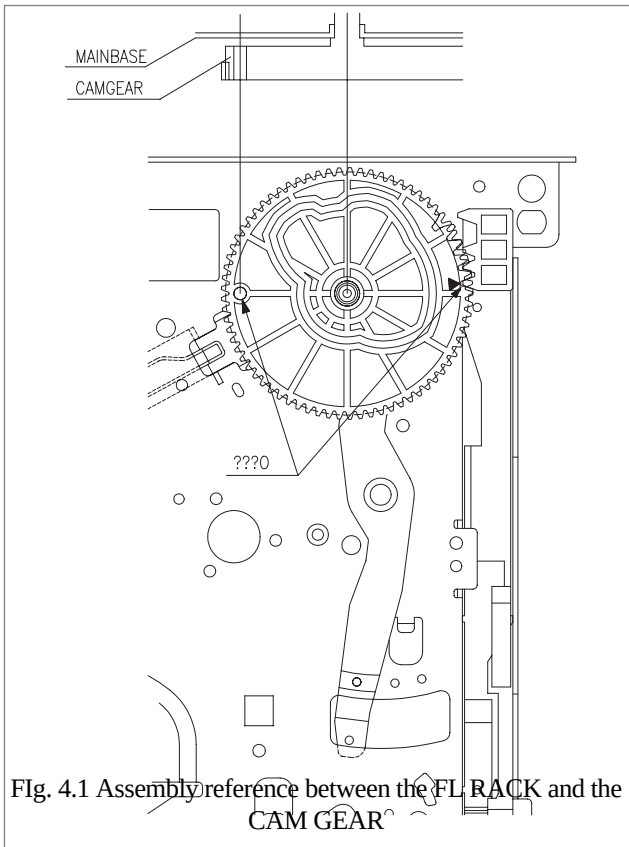

Fig. 4.1 Assembly reference between the FL RACK and the CAM GEAR
4-1 Mechanical Adjustment (Fig. 4.1~4.4)
- Make sure that the DATUM HOLE of the CAM GEAR is aligned with the DATUM HOLE in the MAINBASE in the EJECT mode as shown in Fig. 4-1.